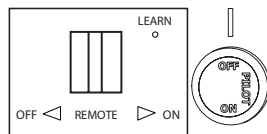

Fig. 19 - Receiver & Control Knob
2. Set receiver switch to "ON" position (See Fig. 19).
4. Wait five (5) minutes to clear out any gas. Then smell for gas, including near the floor. If you smell gas, STOP! Follow "B" in the safety information as noted above. If you don't smell gas, go to the next step.
5. Push in slightly and turn control knob counterclockwise  to the "PILOT" position (See Fig. 19). Depress control knob.